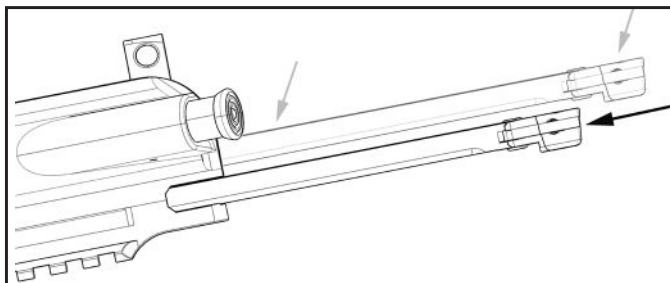

Fig. 64 – Charging Handle Installation
- f. Turn the upper receiver upside down, insert the charging handle into the upper receiver, align the lugs on the outsides of the charging handle with the recesses on the inside of the upper receiver then press down until the charging handle is flush with the inside of the receiver then press slightly forward (Fig. 64).